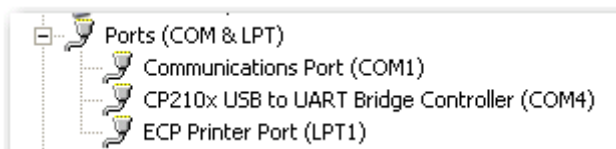

Figure 2-4 • Determining the USB Serial Port's COM Port
4. Determine the COM port assigned to the USB interface. Open the Windows Control Panel and double-click the **System** icon. Click the **Hardware** tab and click the **Device Manager** button. Expand the **Ports (Com & LPT)** item in the Device Manager. Look for the CP2102 USB to UART Bridge Controller in the list of ports. The COM port in parentheses identifies the COM port assigned to this device (Figure 2-4). If you do not see CP2102, you need to install the driver from the CP210x_Drivers.zip archive. Refer to "Installing the M1AFS-ADV-DEV-KIT Board USB Serial Driver" section on page C-31 for more information.